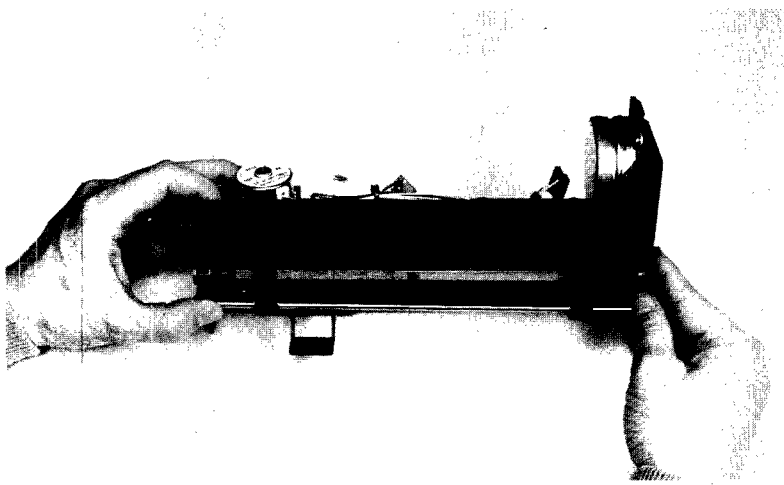

Figure 11-2. Bail Arm Adjustment, Right Side
1. Apply downward pressure on the left side of the bail arm assembly while lifting the right side of the bail, as shown in Figure 11-2. The right pinch roller should lift a short distance (approximately $1/8$ to $1/4$ inch) off the grit wheel before meeting heavy resistance.